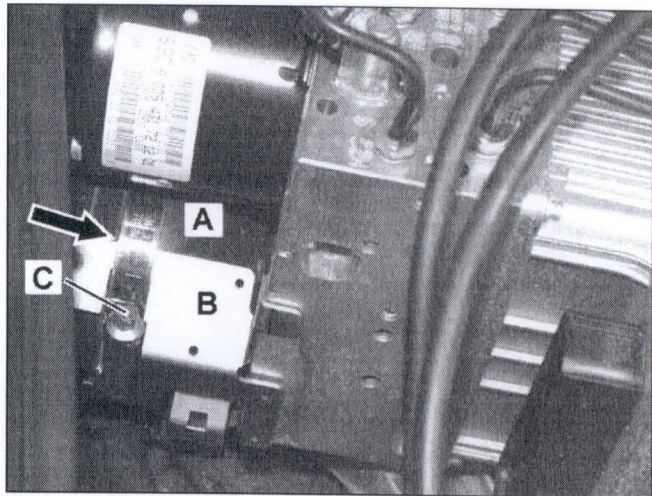

Figure 23
- Position mounting bracket (B) onto SBC hydraulic unit (A) as shown in Figure 23.
- Ensure mounting bracket (B, Figure 23) is flush with SBC hydraulic unit (A).
- Torque mounting clamp screw (C) to 5 Nm while pressing bracket (B) onto SBC unit (A) (Proceed to step 24).